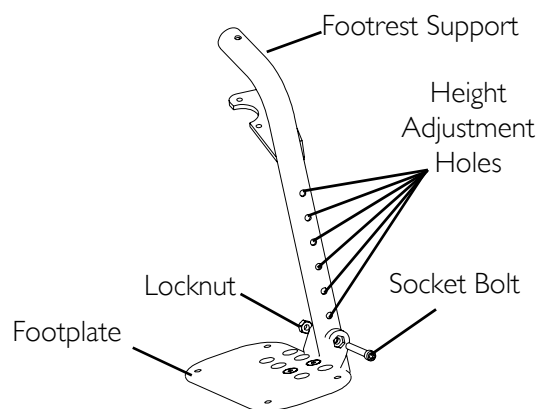

FIGURE 5.4 Installing/Removing Swingaway Footrest - 70° MFX, 90°, 70° LIFT and 90° LIFT Footrests
NOTE: For this procedure, refer to FIGURE 5.4 on page 38.
- Position the hardware on the footrest support as shown in FIGURE 5.4.